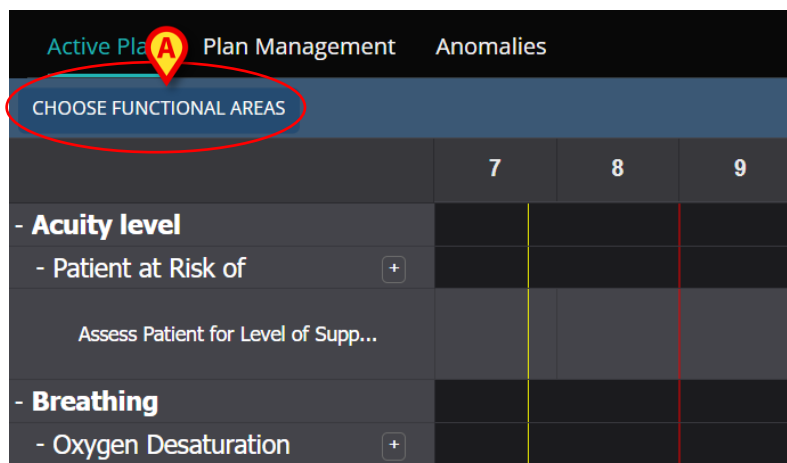

Fig 93
- Click the **Choose Functional Areas** button (Fig 93 **A**).